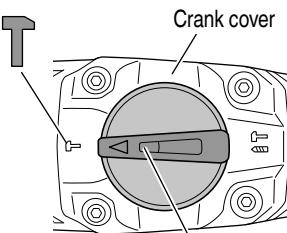

Fig. 7
- (1) Switching to "hammering"
- (b) Align ▲ of the selector lever and T of the crank cover as illustrated in Fig. 7.